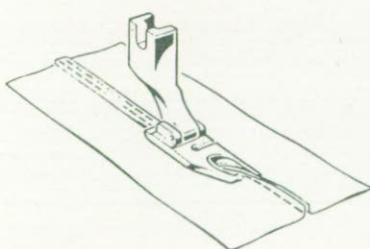

Fig. 45
- Insert edges in hemming foot scroll and sew as for normal straight stitch hem (Fig. 45).